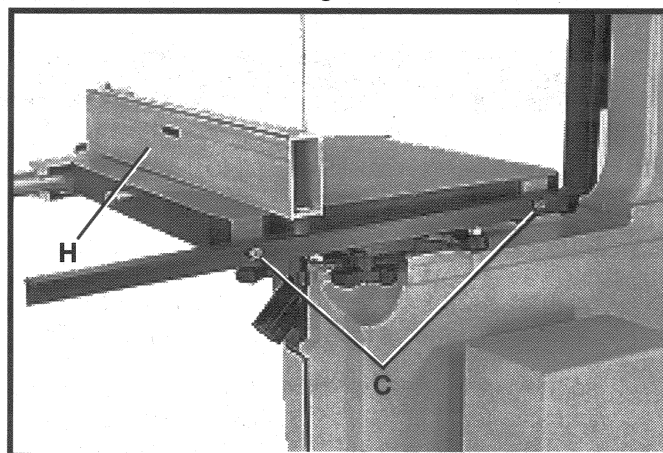

Fig. 5
5. Determine if the gap between the bottom of fence (H) Fig. 5 and the top of the saw table is the same across the entire length of the fence. Use the vertical slots underneath screws (C) in the rear fence rail to make any necessary height adjustments.
6. Tighten screws (C) Fig. 5 after adjustments are made.